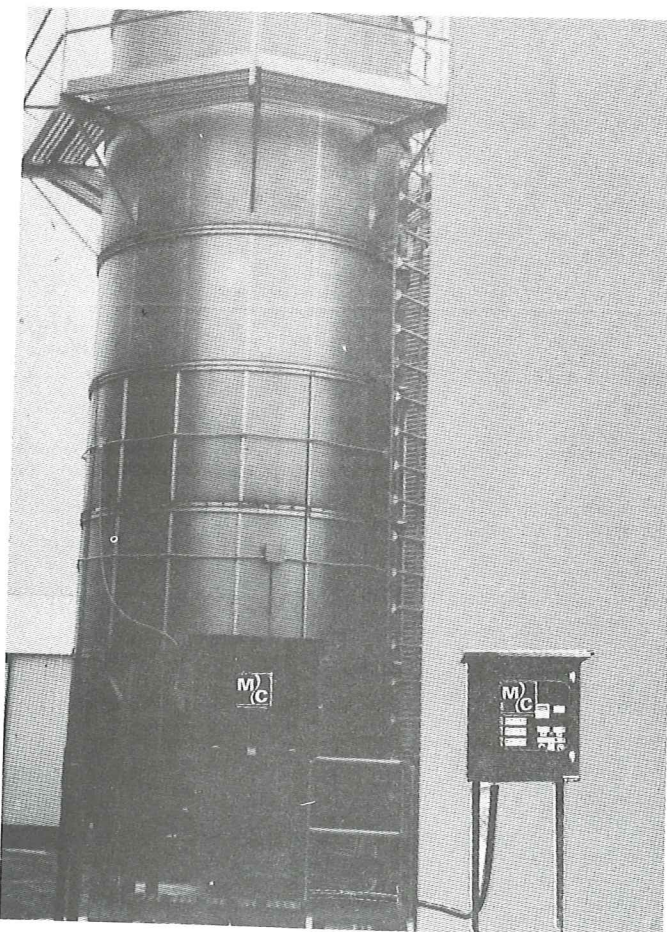

Figure 30 - Remote Cabinet Set-Up with Stands (10730 shown)
3. Position Remote Cabinet in desired location and secure. See Figure 30.